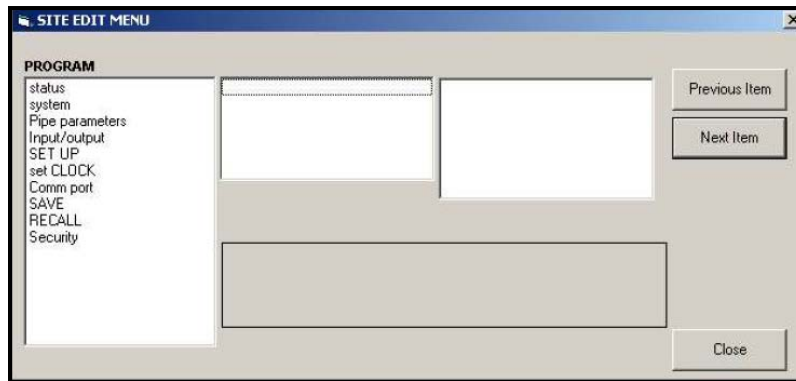

Figure 37: The *Site Edit Menu* Window
5. To open a particular menu, double-click on that menu on the tree. For example, if you double-click on the Site Edit Menu, a window opens similar to *Figure 37* below.